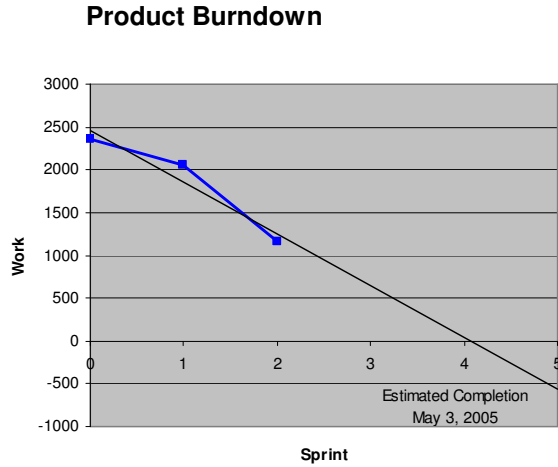

Figure 3: Product Burndown
- **Product Burndown:** The burndown in work budgeted and planned compared as decreased by work completed across time. Based upon this, an estimated completion date can be determined as the trend line crosses the x-axis (see Figure 3: Product Burndown).